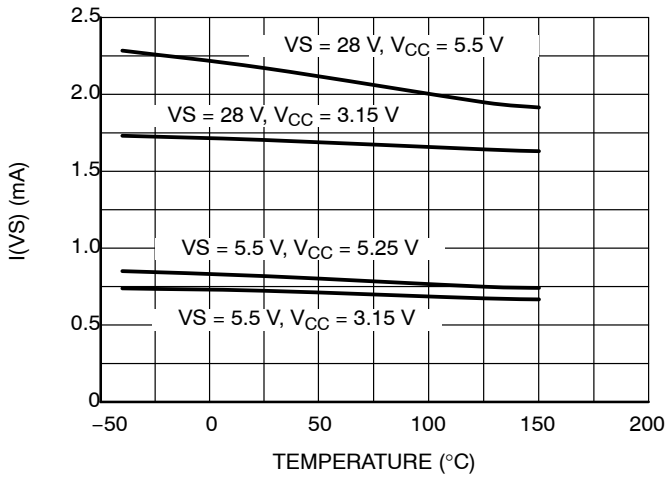

Figure 10. $I(VS)$ vs. Temperature
6. Refer to Figure 10. I(VS) versus Temperature.